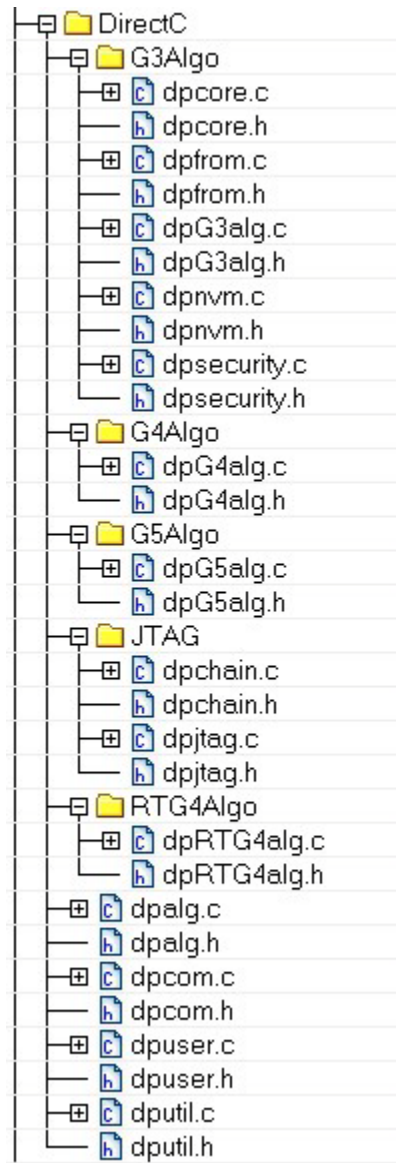

Figure 2-2 • DirectC v4.1 Files to import into your Development Environment
1. Import the DirectC v4.1 files shown in Figure 2-2 into your development environment.